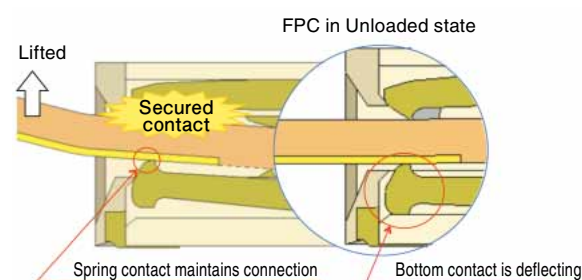

Fig.3
• Top and bottom spring contacts follows up-and-down movement of the FPC to provide secure connectivity. (Fig.3)